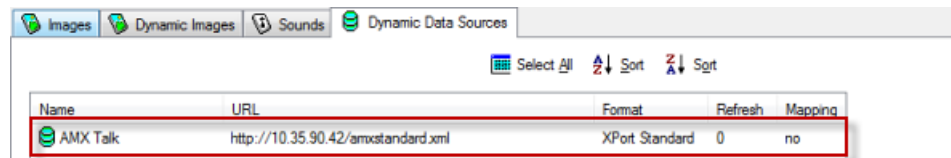

FIG. 189 Resource Manager - Dynamic Data Sources tab indicating "amxstandard.xml" as the data source
- Click **OK** to save changes and close this dialog. The new data source is indicated in the Resource Manager - Dynamic Data Sources tab (FIG. 189):